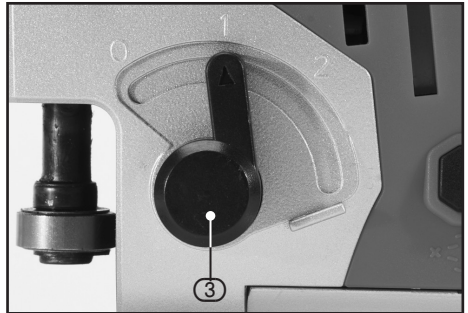

FIG.4
9.2 SELECTING THE CUTTING ACTION – FIG.4
- To change the cutting action, just turn the orbital/pendulum speed adjustment switch ③ to the desired cutting action position. Refer to the table to select the appropriate cutting action.